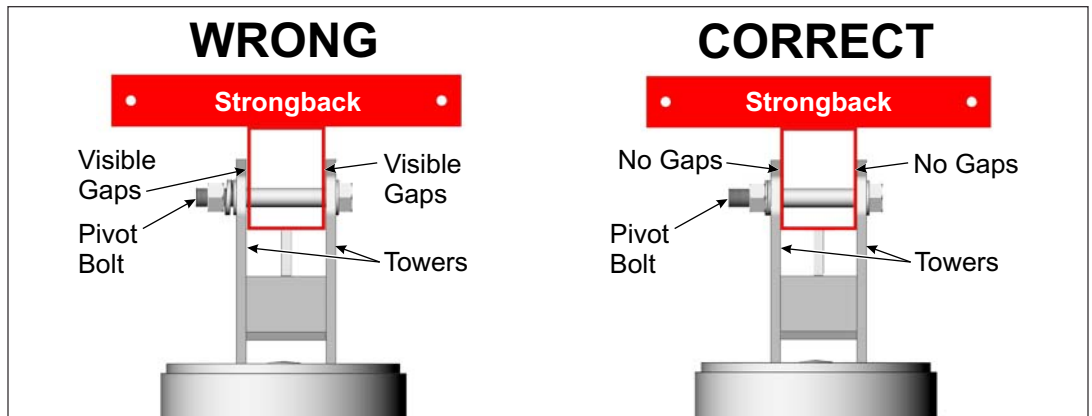

Figure 2-4: Tighten and Torque the Pivot Bolt
- G. Return and tighten the Pivot Bolt. The Pivot Bolt cannot be left loose - the Mounting Sleeve Vertical Towers must be firmly clamped to the sides of the Strongback eliminating any gaps between the Vertical Towers and the Strongback. **Torque to 125-150 ft.-lbs.** (See Figure 2-4)